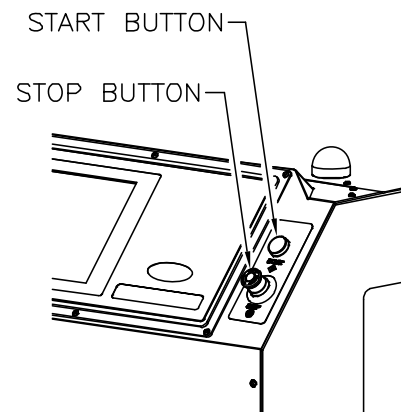

Figure 4-2. Stop Button Location
1. If running, stop the trimmer by pressing the red stop button located next to the console (Figure 4-2). It may be helpful to press the stop button in between trimming cycles since any books that are mid-cycle when the machine is stopped will not be completely trimmed and will be ejected at next startup.